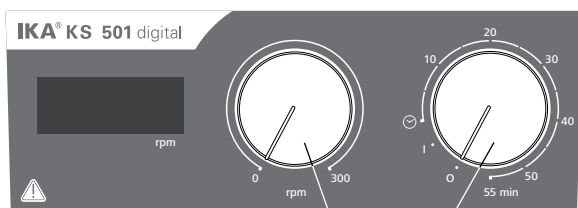

Fig. 3
- ☞ To switch the device on, turn the "**On/Off**" and "**Timer**" rotary knob (**B**, see Fig. 3) clockwise to the "**1**" position.
- ☞ Set the motor speed by turning the "**Speed**" rotary knob (**C**, see Fig. 3). The motor speed can be set to between 0 to 300 rpm.